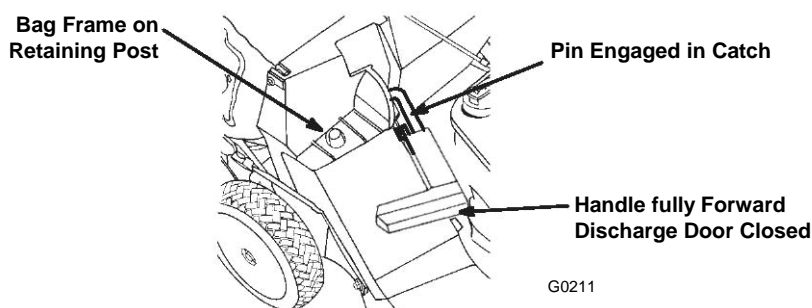

Figure 10
2. Ensure that the discharge door handle is fully forward and that the pin is engaged in the catch (Fig. 10).
3. Slide the hole in the bag frame onto the retaining post on the discharge tunnel (Fig. 10)
2. Raise the discharge door handle and move it forward to engage the pin with the catch (Fig. 10).